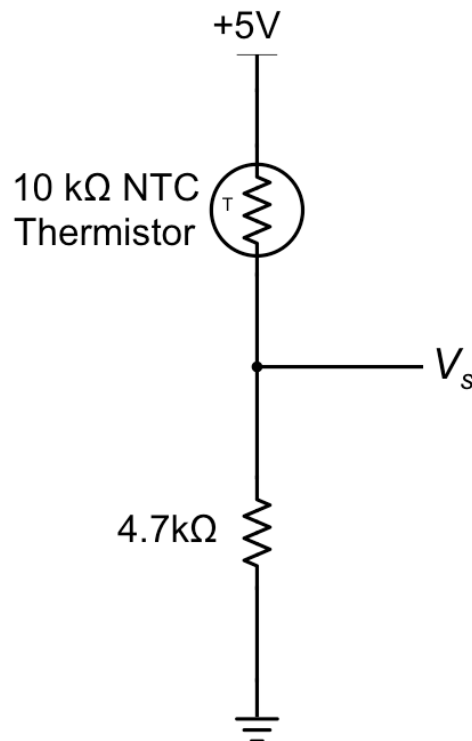

Figure 1 – A thermistor is wired up in a voltage divider circuit. Note that the voltage divider is now driven by 5V instead of 12V.
1. Construct the thermistor voltage divider circuit near the top of the small breadboard, as you did in previous lab. The Arduino does not like voltages above 5V, so you will use the **5V bus line for V_{in}** on the voltage divider (NOT 12V), as shown in Fig. 1.